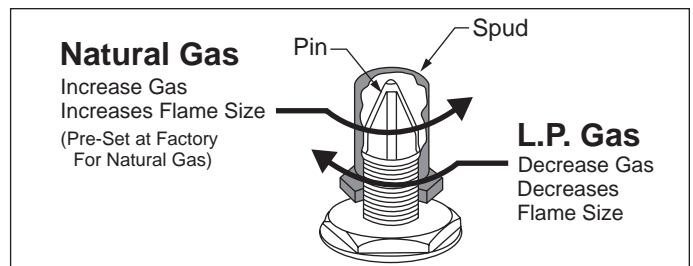

Figure 25
3. On standard burner models; is the outer spud turned down against the inner pin, (See Figure 25), or is it turned down so tight that the inner pin is damaged?